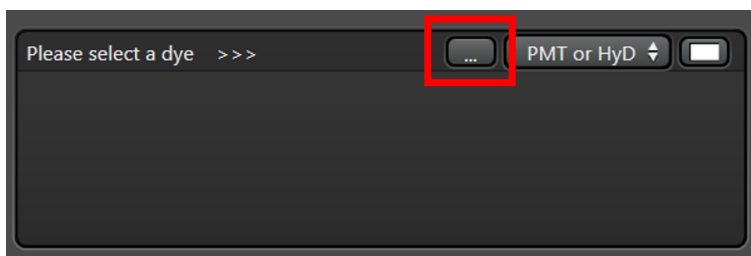

Figure 13
2. In the Dye Assistant window, click the '...' button in order to select the fluorescent markers that are present in the sample. See Figure: 13